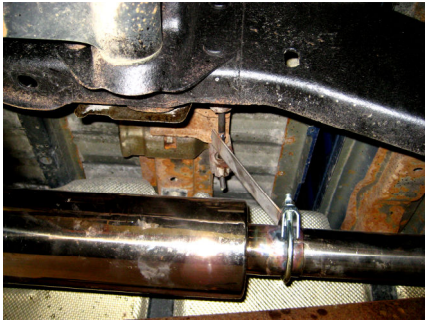

Figure 5
2. Install the **Muffler** onto the **Extension Pipe** using the **Hanger Clamp** provided. Then install the **Hanger Clamp** into the factory rubber insulator. Do not tighten the clamp at this time. **Refer to Figure 5.**